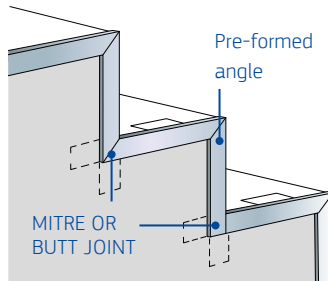

FIG. 1
- Loosely position adjacent trims on the side of the steps and scribe the back edge of each angle to form a butt or mitred angle with its neighbour (FIG. 1).